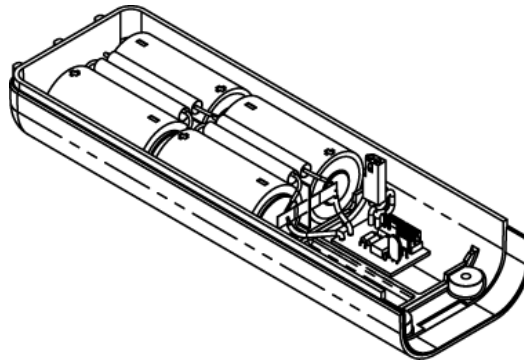

Figure 5 Battery Pack Assembly
- 4) The battery pack for the C406-1 Series ELT consists of four "D" size lithium manganese dioxide cells connected in series. To prevent the cells from being charged, diodes are connected across each cell and fuses are connected to the output. See Figure 5 Battery Pack Assembly.